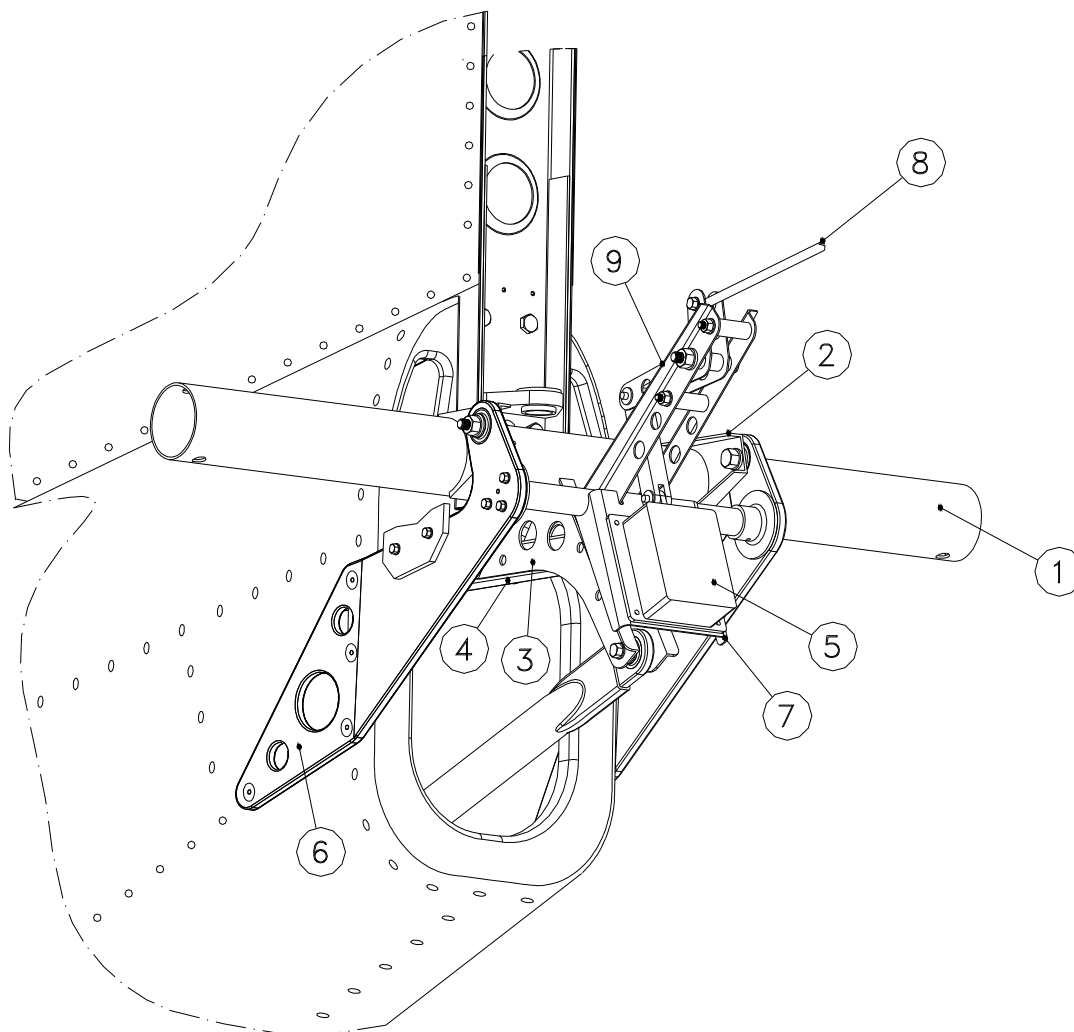

FIGURE C-8 STABILATOR AND TRIM TAB CONTROLS
The aft bellcrank assembly (see fig. C-8) consists of a steel tube (1) with welded horn assembly (2), attachment for stabilator control shaft (3) and balanced weight bellcrank (4). Counterweight is located at the end of a prong bolted to the torque tube and entering tail cone through the tail-frame cutout.